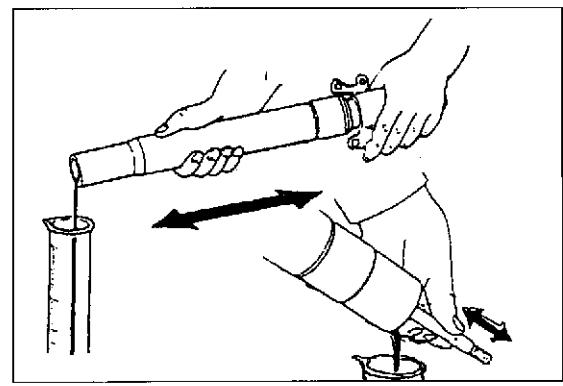

Fig. 3
5) Pour out the fork oil by pumping the fork leg and piston rod 8-10 times. [Until rod moves freely as shown on Fig. 3].